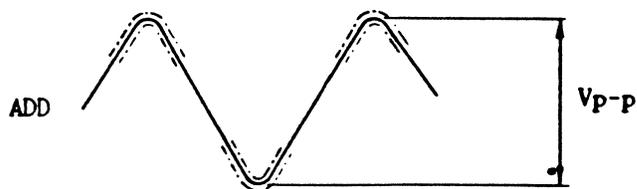

Fig. 414 Average Read Level Measurement(2F)
- (2) Start the spindle motor and load the level disk.
- (3) Shift the head to the innermost track.
- (4) Record one track at a constant 2F frequency (WRITE DATA frequency at 250kHz).
- (5) Measure the average read level value (V_{p-p}) in accordance with Fig.414.
- (6) Substitute the measured values of item (5) and corrected READ LEVEL value into the following formula: